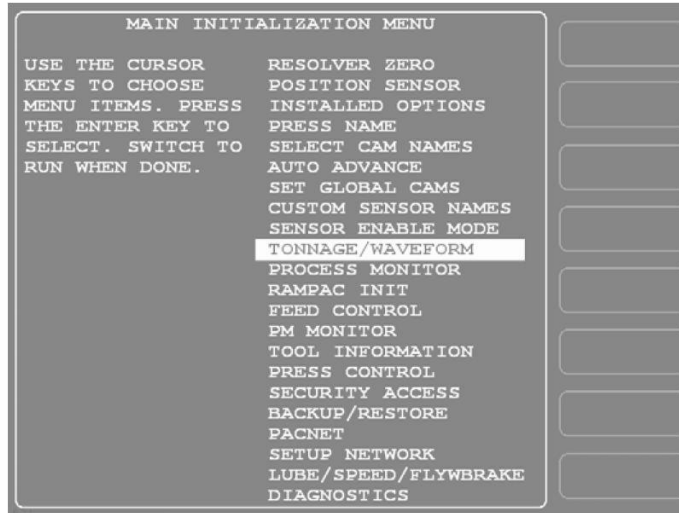
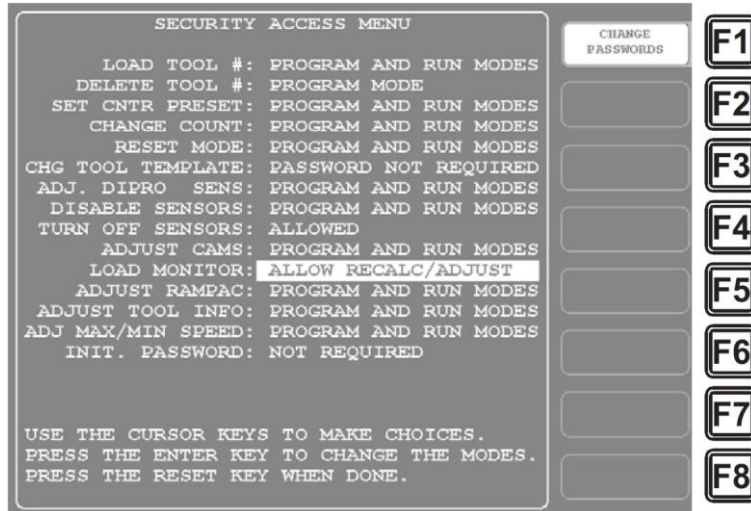

Figure 3-2. SmartPAC 2 Main Initialization Menu
Figure 3-9. Security Access Menu with Load Monitor Setting Highlighted
<p>Access Original SmartPAC or SmartPAC 2 Initialization Menu</p>	<ol style="list-style-type: none"> 1. Turn the Program/Run key on the SmartPAC front panel to “PROG.” 2. Press the “1” and “CLEAR” keys simultaneously for one second. The Main Initialization Menu appears (SmartPAC 2 is Figure 3-2, below; original SmartPAC is similar). The screen you see may be slightly different depending on your installed options.
1. Select “SECURITY ACCESS” on the Main Initialization Menu (see Figure 3-2). A screen like the one shown in Figure 3-9 displays. (The items on your menu may differ depending on installed options.) Note that the LOAD MONITOR item shown in Figure 3-9 is set to “ALLOW RECALC/ADJUST,” a setting that allows the operator to recalculate and adjust setpoints in Run mode. This is the factory setting.
1. Select “DIAGNOSTICS” on the Main Initialization Menu (see Figure 3-2) to display the Diagnostic Menu.
3. Turn the Program/Run key to PROG, then press the “1” and “CLEAR” keys simultaneously and hold down a few seconds until the Main Initialization Menu (see Figure 3-2) appears.